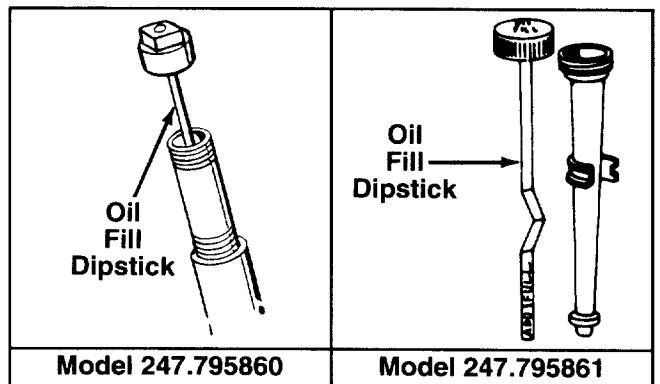

FIGURE 12.
- Fill engine with oil as follows. Remove oil fill dipstick. See figure 12. With chipper-shredder level, use a funnel to fill engine with oil to FULL mark on dipstick. Capacity is approximately 2-3/4 pints. Be careful not to overfill. Tilt chipper-shredder toward the left (from behind the hopper), then re-level. Check oil level. Refill to FULL mark on dipstick if necessary. Replace dipstick and tighten.
Your four-cycle engine will normally consume some oil—therefore, check engine oil level regularly approximately every five hours of operation and before each usage. Stop engine and wait several minutes before checking oil level. With engine level, the oil must be to FULL mark on dipstick (refer to figure 12). Change engine oil after the first five hours of operation, and every twenty-five hours thereafter.